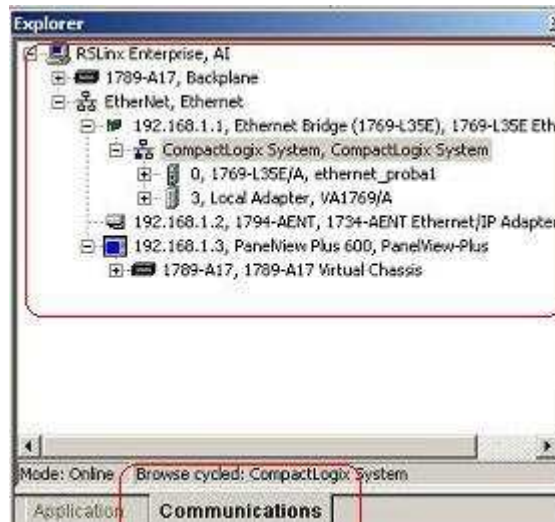

Fig.31. Communications tab
4. Prepare correct configuration of Communication. First check available devices. For this purpose click the **Communications** tab (Fig. 31).